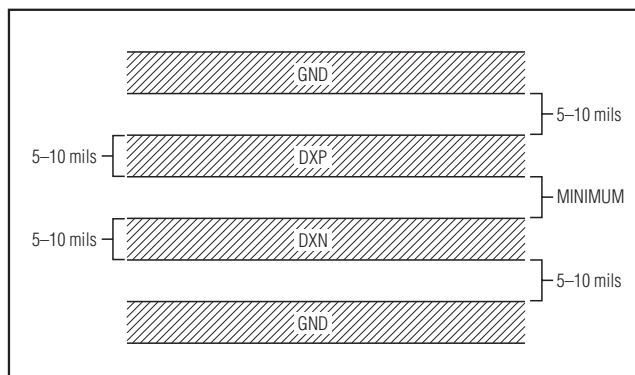

Figure 5. Recommended DXP-DXN PCB Traces. The two outer guard traces are recommended if high-voltage traces will be near the DXN and DXP traces.
- 3) Route the DXP and DXN traces in parallel and in close proximity to each other. Each parallel pair of traces should go to a remote diode. Route these traces away from any higher voltage traces, such as +12VDC. Leakage currents from PCB contamination must be dealt with carefully since a 20M $\Omega$  leakage path from DXP to ground causes about +1°C error. If high-voltage traces are unavoidable, connect guard traces to GND on either side of the DXP-DXN traces (Figure 5).